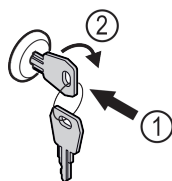

Fig. 159 Example illustration
- ▶ Insert key Fig. 159 (1).
- ▶ Turn key clockwise by 90° Fig. 159 (2).